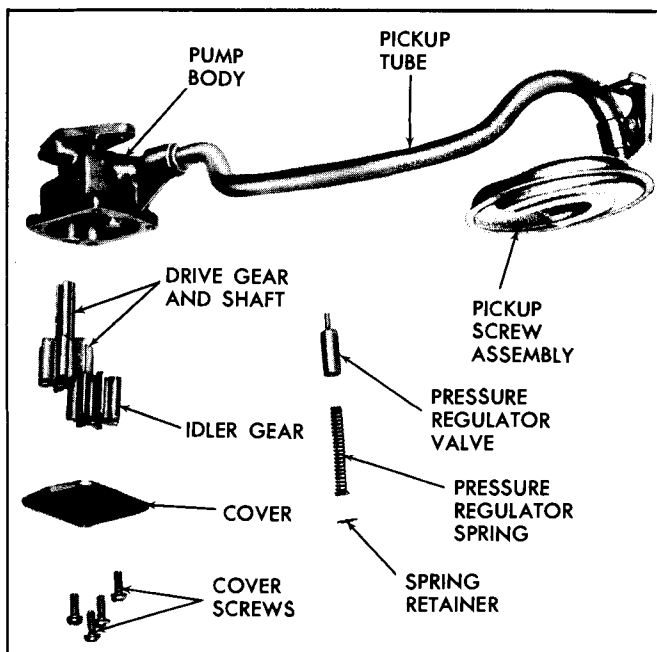

Fig. 6-52 Oil Pump - Exploded View
3. Remove 4 cover attaching screws, cover, gasket, idler gear and drive gear and shaft (Fig. 6-52).